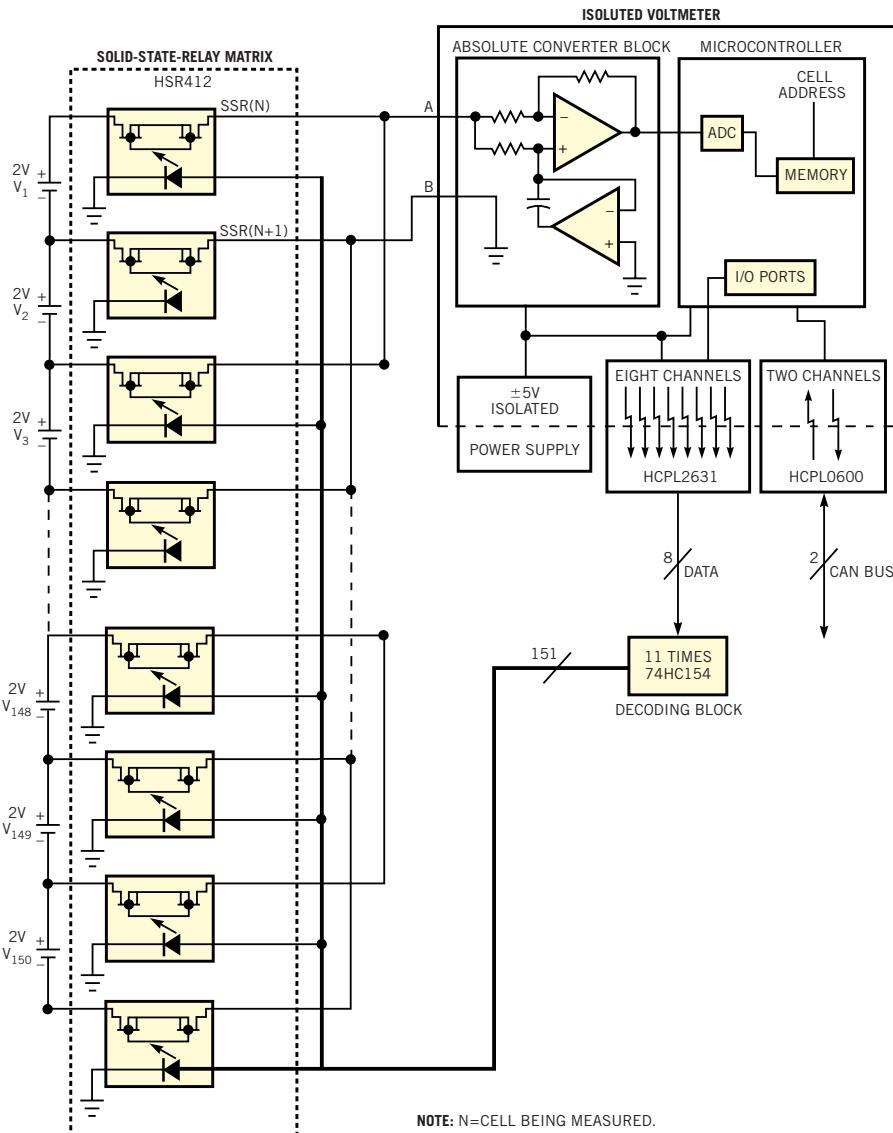

Figure 2 An SSR-based switch matrix allows you to measure individual cells in an electric car's battery.
potential is to connect the isolated voltmeter across each cell. A closer look at Figure 2 reveals how to effect this connection. The input to the isolated voltmeter connects to a two-wire measurement bus. The terminals of this bus are designated A and B. The test points across the various battery cells are designated SSR(N) and